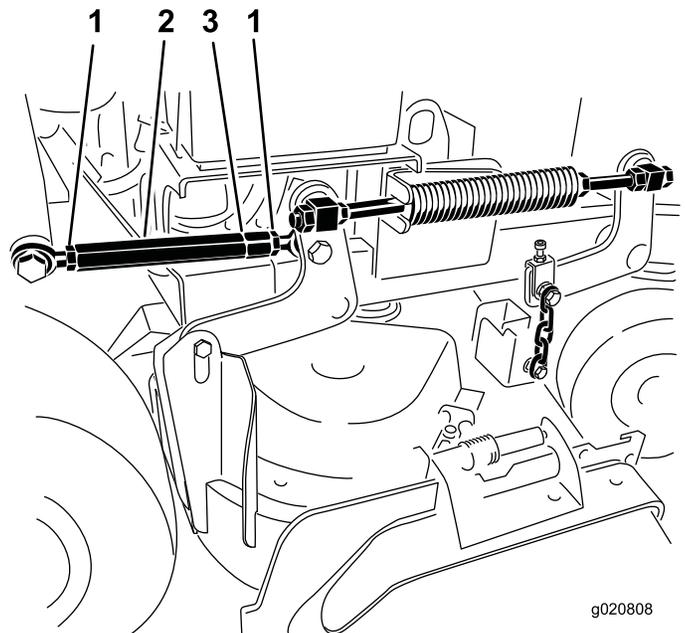

Figure 87
5. Loosen the jam nuts at both ends of the turnbuckle (Figure 87).
- Note:** The end of the turnbuckle with the groove machined in it, has left hand threads (Figure 87).